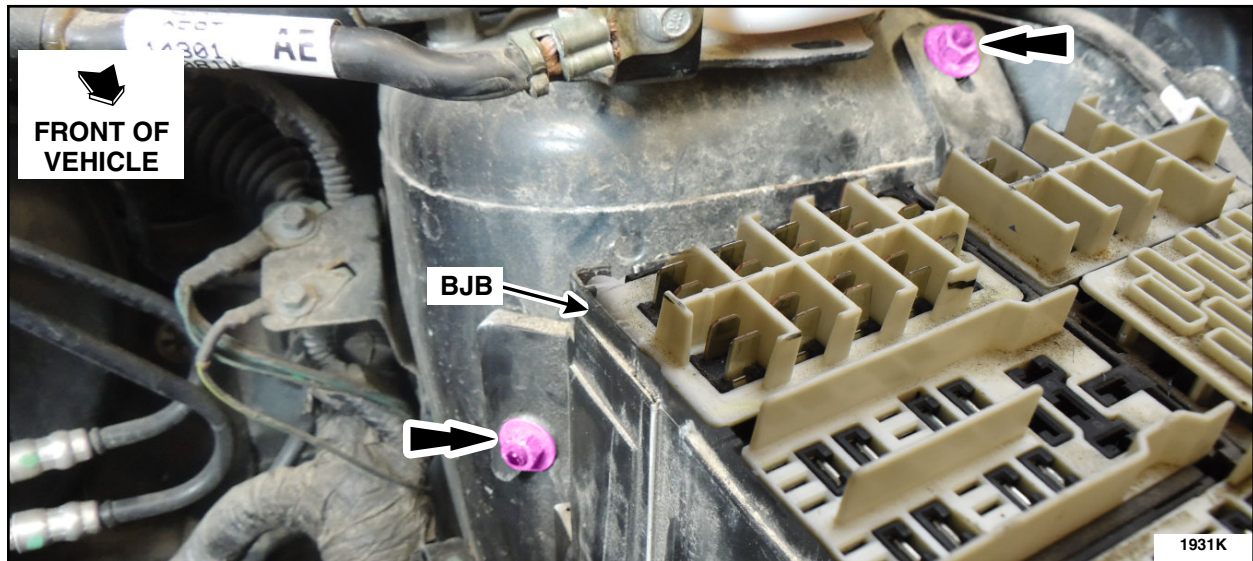

FIGURE 3
4. Remove the two nuts from the BJB. See Figure 3.
8. Install the two BJB nuts. See Figure 3.